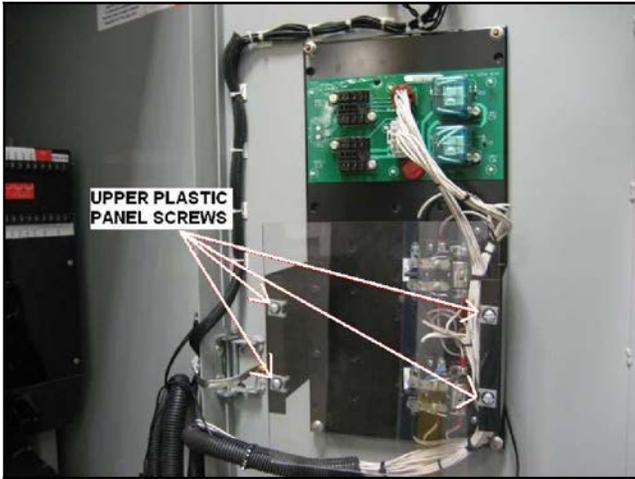

Figure 38 Remove Plastic Cover on Interface Panel
- Remove the plastic cover from the interface panel components on the upper door. See Figure 38.